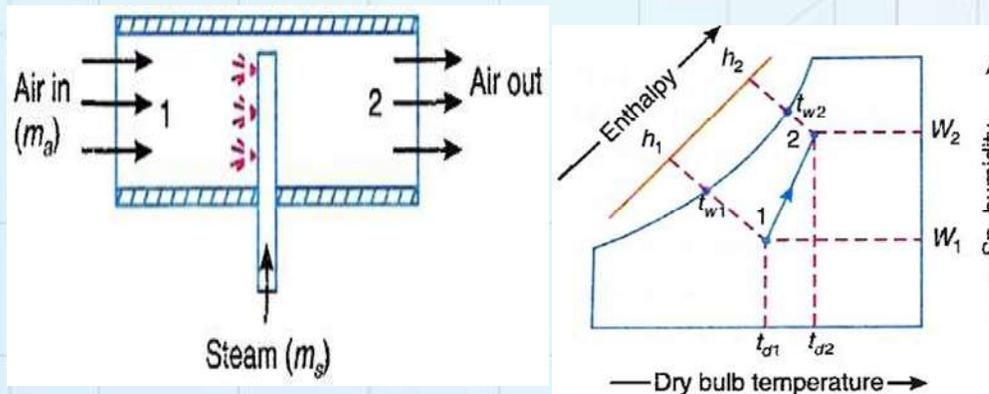

Fig.2.11 Heating & humidification by steam injection
- ▶ In this method saturated steam injecting into the flowing stream of air. This process is represented by 1-2 on psychrometric chart (Fig. 2.11).